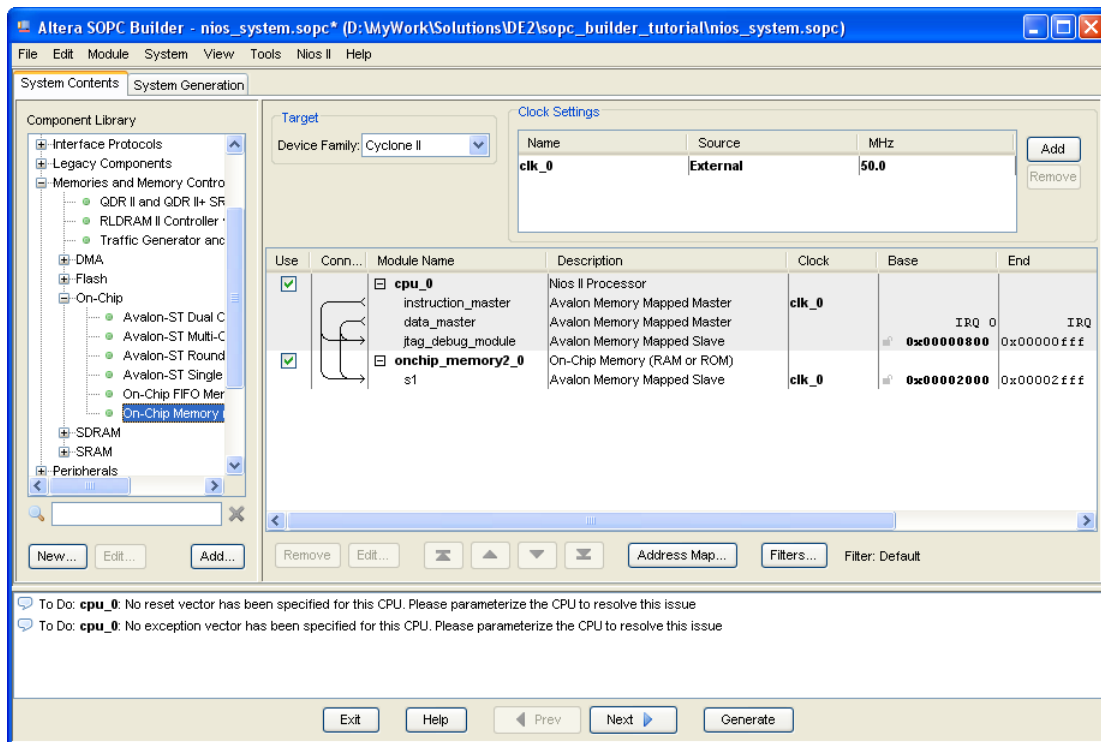

Figure 9. The on-chip memory included on a DE-series board.
- Click Finish, which returns to the System Contents tab as indicated in Figure 9